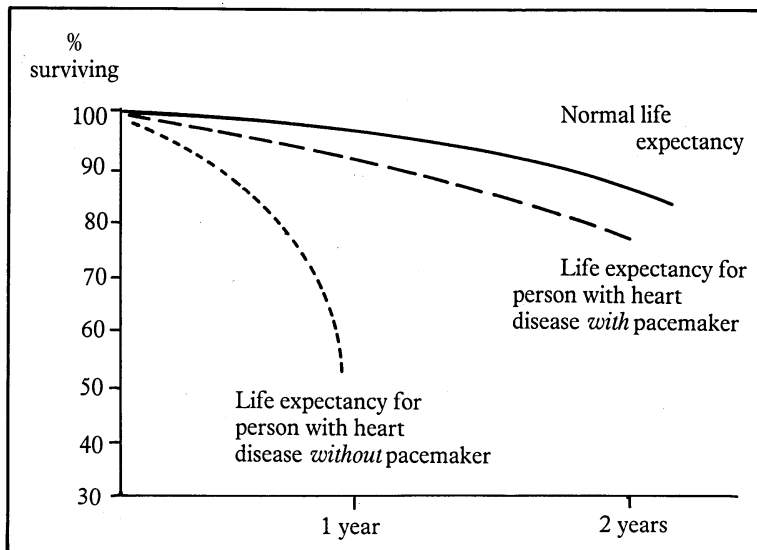

Figure 1 How a heart pacemaker increases life expectancy
Pacemakers are fitted to people whose hearts do not beat regularly. Before pacemakers were developed, these patients could not expect to live long, as you can see from the graph in Figure 1. For tens of thousands of people it means the difference between death and a normal, active life.
- 4 Look again at the graph in Figure 1. What percentage of people survive for two years after having a pacemaker fitted?